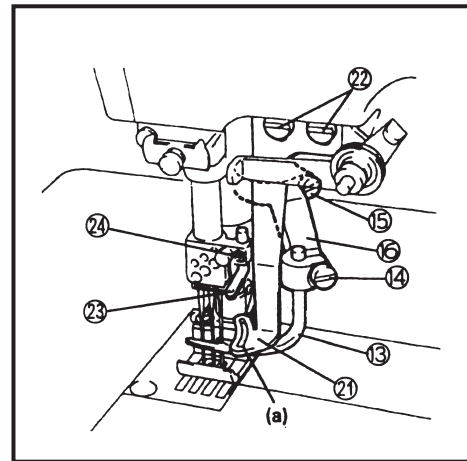

Fig.35
3. 上述之調整動作可藉由放鬆螺絲⑭與⑮來取得。
Above adjustment is made by loosening Screw ⑭ of Spreader and Screw ⑮ of Spreader Holder. (Fig.35)